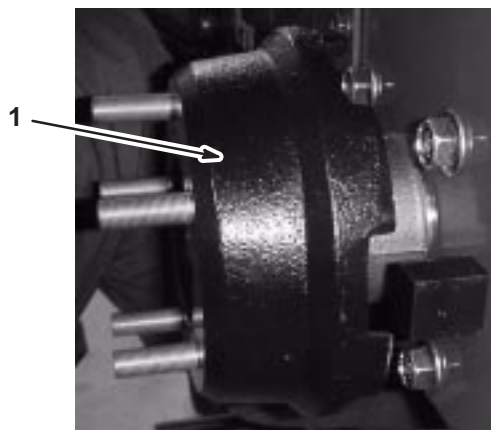

Figure 16
4. Place the new wheel hubs with the lugs pointing out over the drive shafts (Fig. 16).